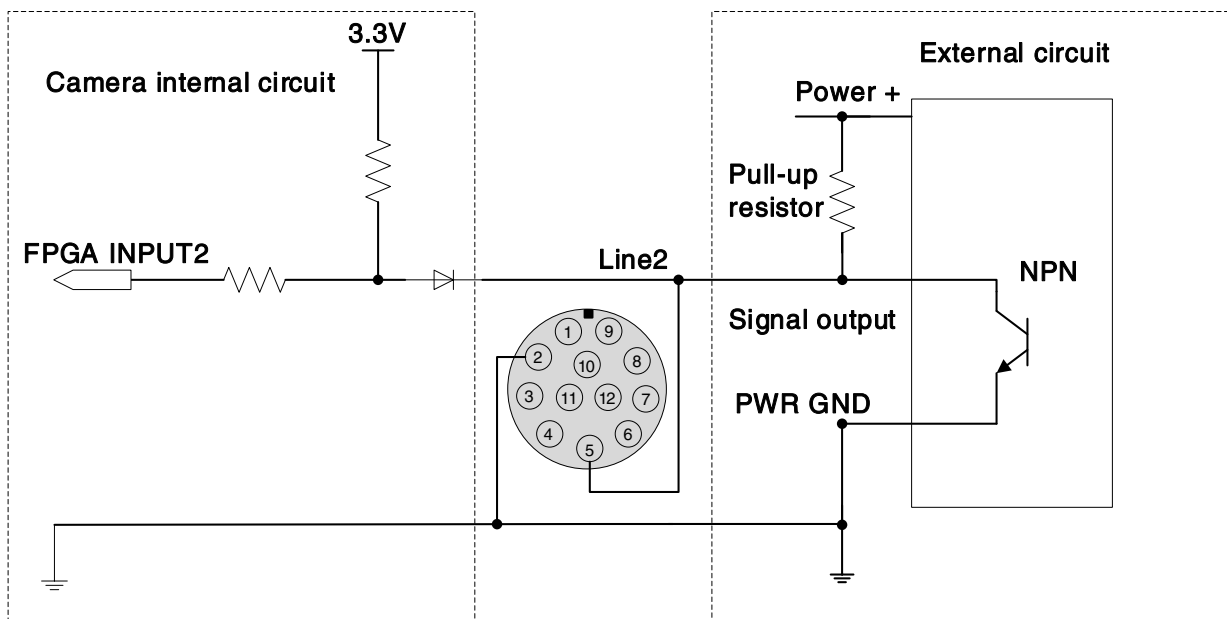
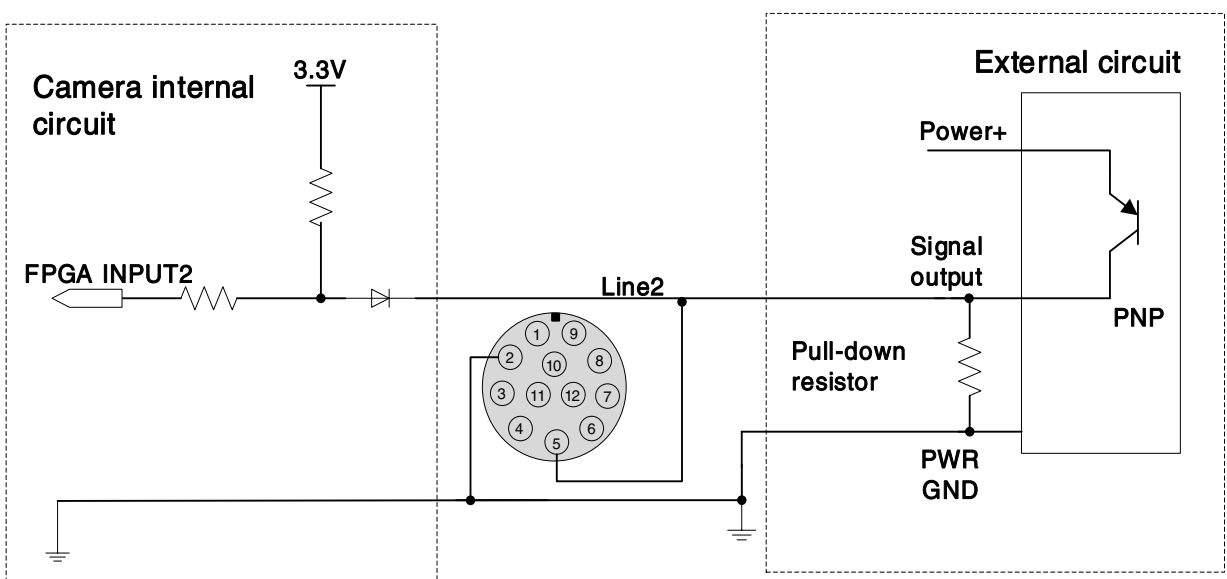

Figure 7-9 NPN photoelectric sensor connected to Line2 input circuit
Figure 7-10 PNP photoelectric sensor connected to Line2 input circuit
- When input of Line2/3 is high, input current is lower than 100μA. When input of Line2/3 is low, input current is lower than -1mA. When Line2/3 is configured as input. The connection method between them and NPN and PNP photoelectric sensors is shown in Figure 7-9 and Figure 7-10.